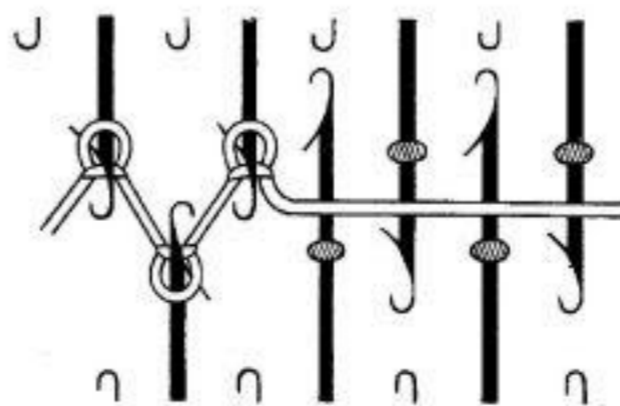

Fig. 81
**Note :** It will be seen that the yarn passes over the stems of the needles brought into the Holding Position. (Fig. 81)